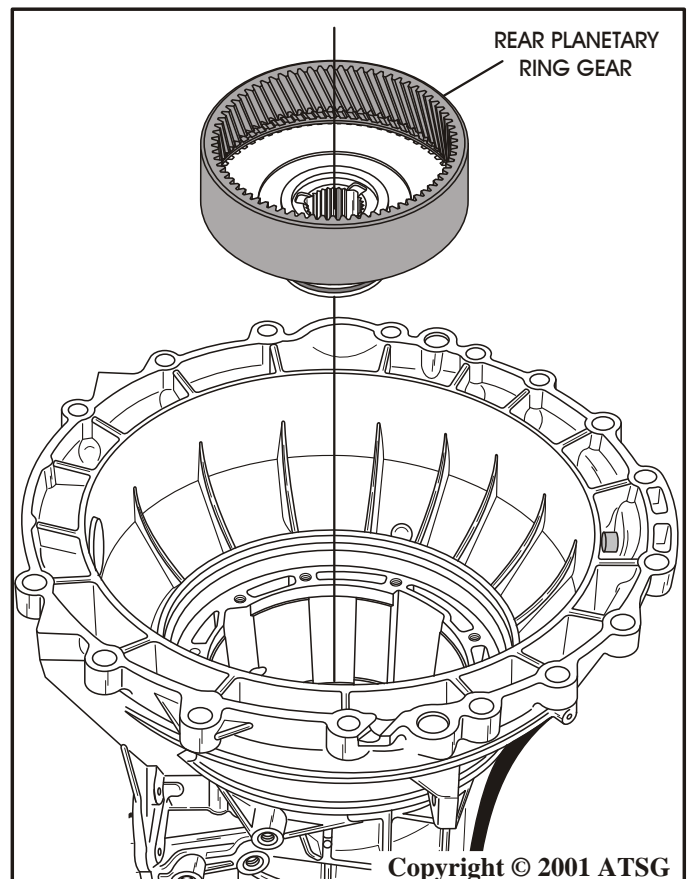

Figure 142
6. Install the pre-assembled rear planetary ring gear that has the seal ring with the notches in it, as shown in Figure 142.